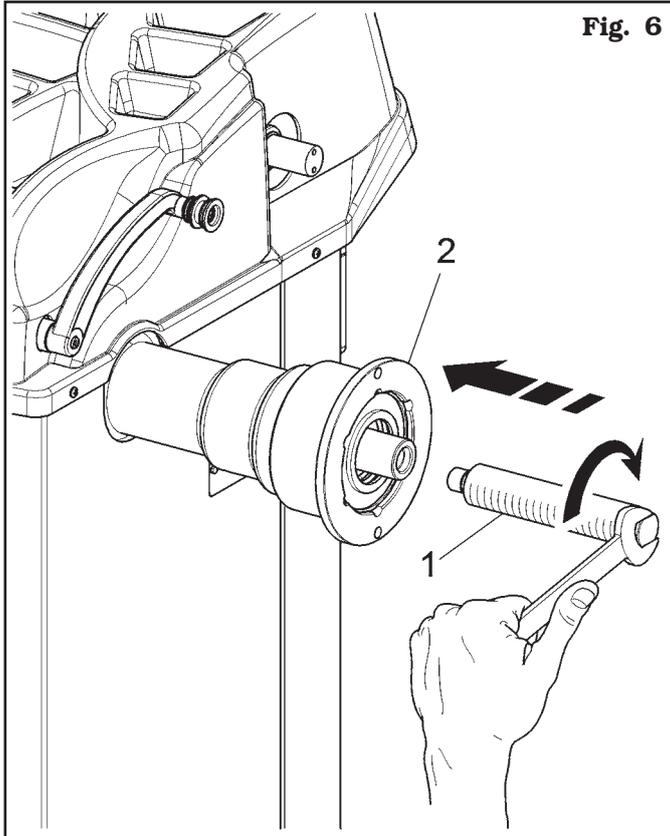

Fig. 6
Screw the mandrel with an Allen wrench (Fig. 6 ref. 1) on the flange (Fig. 6 ref. 2).